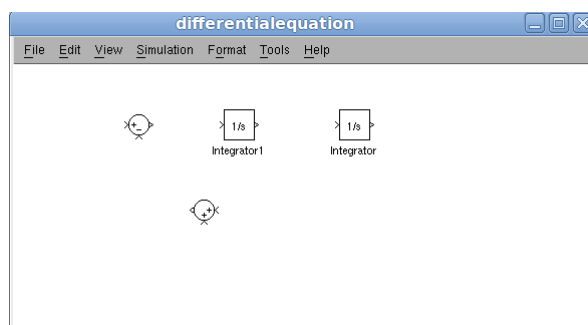

Figure 2: Simulink model with integrators and sums
4. Choose the group **Commonly used blocks** in the tree to the left and drag two **Sums** to the work space, see Figure 2. Double clicking on a **Sum** block opens the **Function Block Parameters** window where the Sums can be configured.